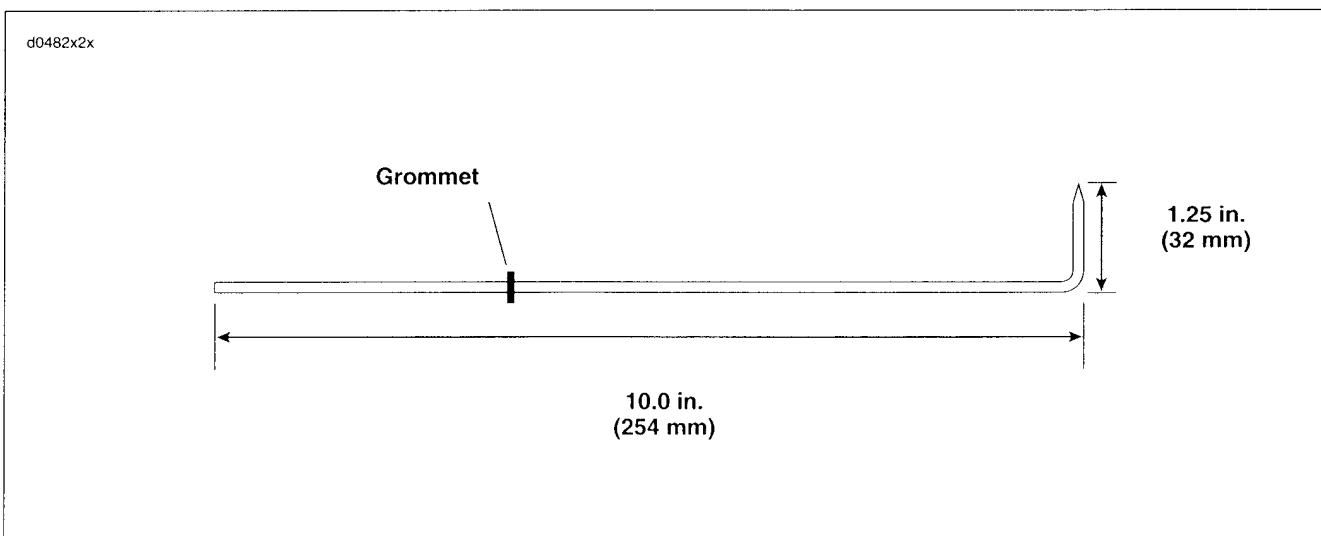

Figure 2-62. Alignment Tool
3. See Figure 2-62. To ensure accurate measurements, obtain a piece of 1/8 in. (3.2 mm) aluminum welding rod 11 in. (280 mm) long. Grind one end down to a blunt point. With a pliers, bend the rod 90 degrees as shown. Place a snug fitting grommet on the rod to act as a slide measurement indicator.